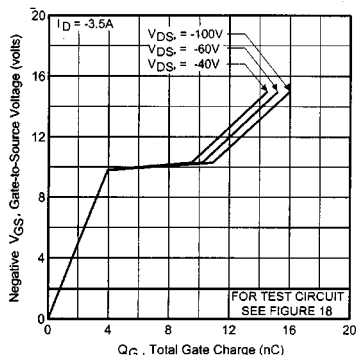

Fig. 11 — Typical Gate Charge Vs. Gate-to-Source Voltage
① Repetitive rating; pulse width limited by max. junction temperature (See Figure 11)
③ $I_{SD} \leq -3.5A$, $di/dt \leq 95A/\mu s$, $V_{DD} \leq V_{(BR)DSS}$, $T_J \leq 150^\circ\text{C}$
② Not Applicable
④ Pulse width $\leq 300 \mu s$; duty cycle $\leq 2\%$.